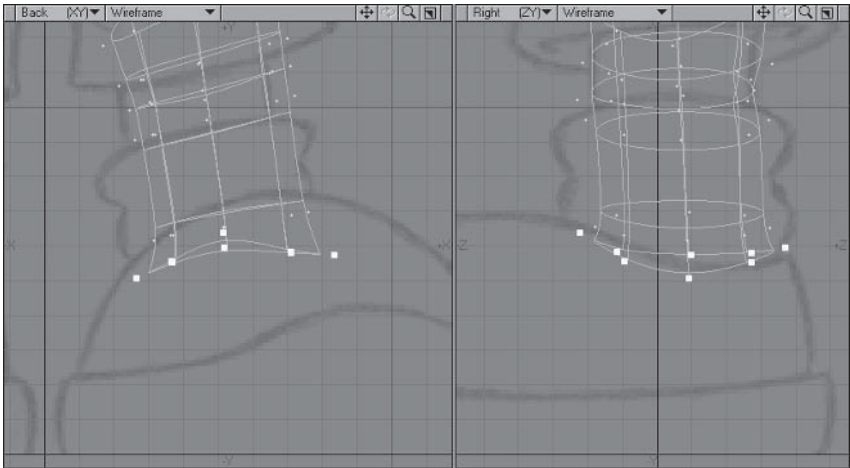

Figure 5.4-48. Creating the ankle.
2. **Extend** the bottom row of points at the ankle and adjust to match Figure 5.4-48, moving the side two points out to create the ankle bones.